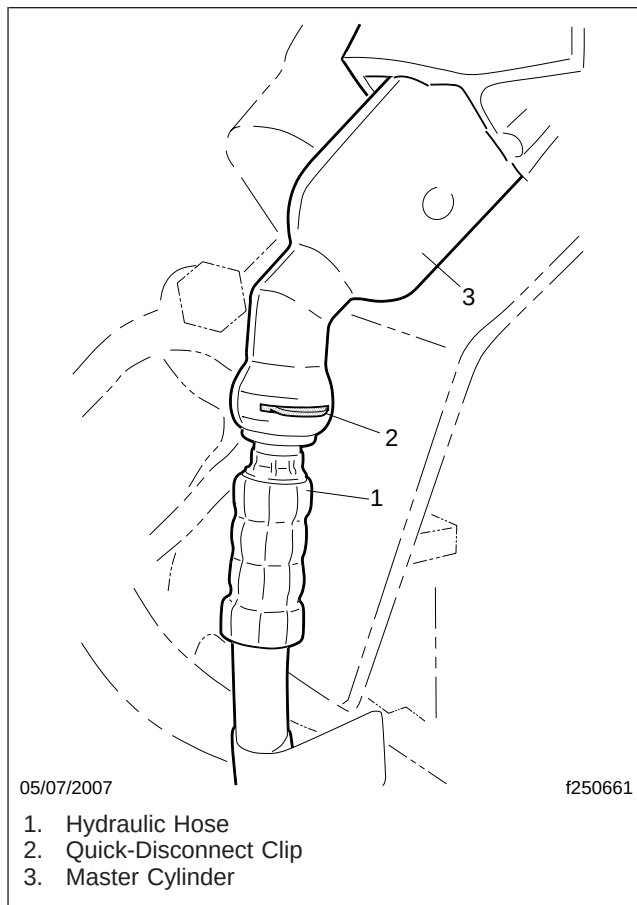

Fig. 1, Quick-Disconnect Clip at the Master Cylinder
2. Use a flat-tip screwdriver to remove the quick-disconnect clip that locks the hydraulic hose into the master cylinder. See Fig. 1. Remove the hose and, with the end pointing upwards to prevent fluid spillage, secure it temporarily to a safe point on the vehicle. Retain the clip for later installation.